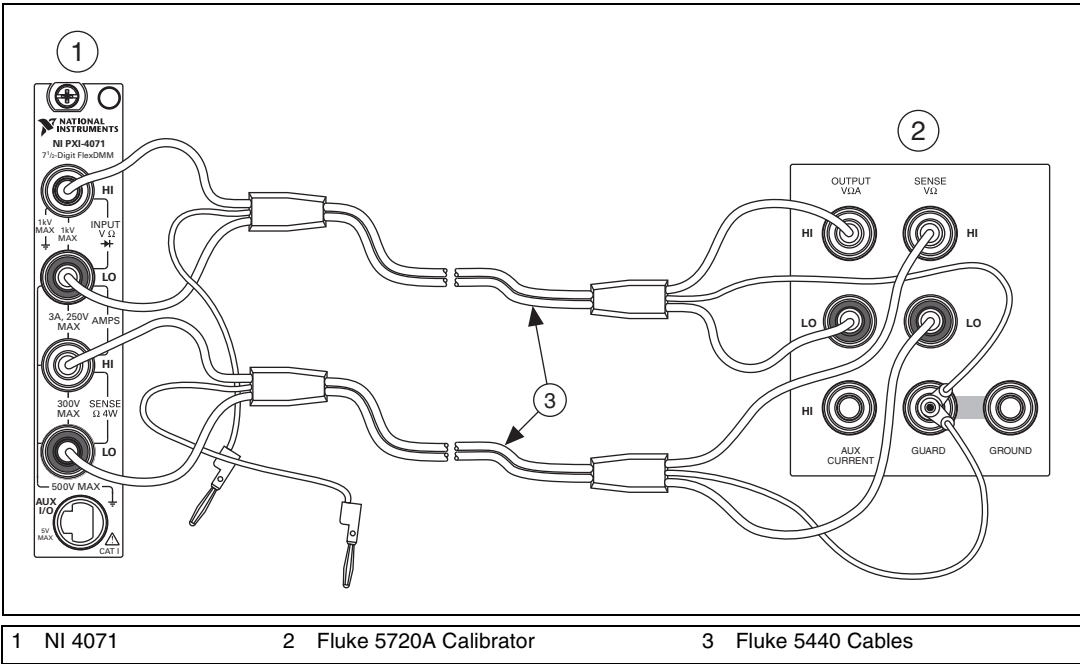

Figure 2. Cable Connections for 4-Wire Resistance
- 2. Connect the NI 4071 and the Fluke 5720A calibrator using the Fluke 5440 cables, as shown in Figure 2. Table 9 lists the cable connections.